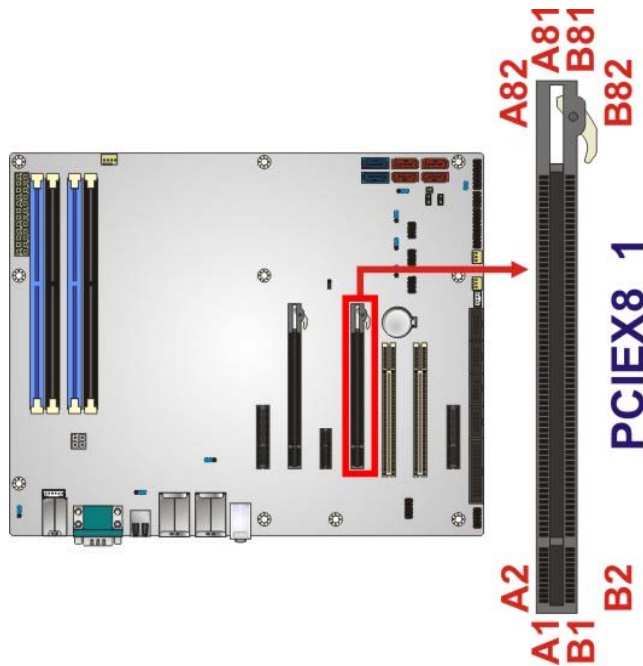

Figure 3-19: PCIe x8 Slot Location
- CN Location:** See **Figure 3-19**